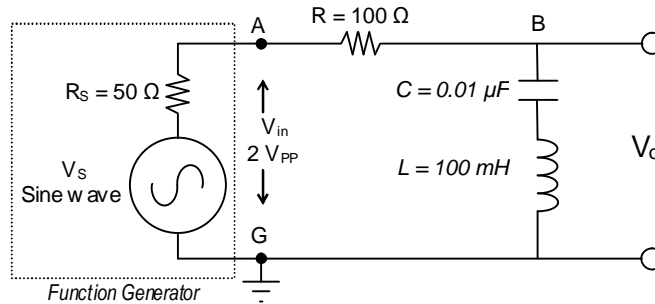

Figure 7.4 Modified series RLC resonant circuit.
- Switch the positions of the resistor with inductor and capacitor to get the series RLC circuit shown in Figure 7.4.